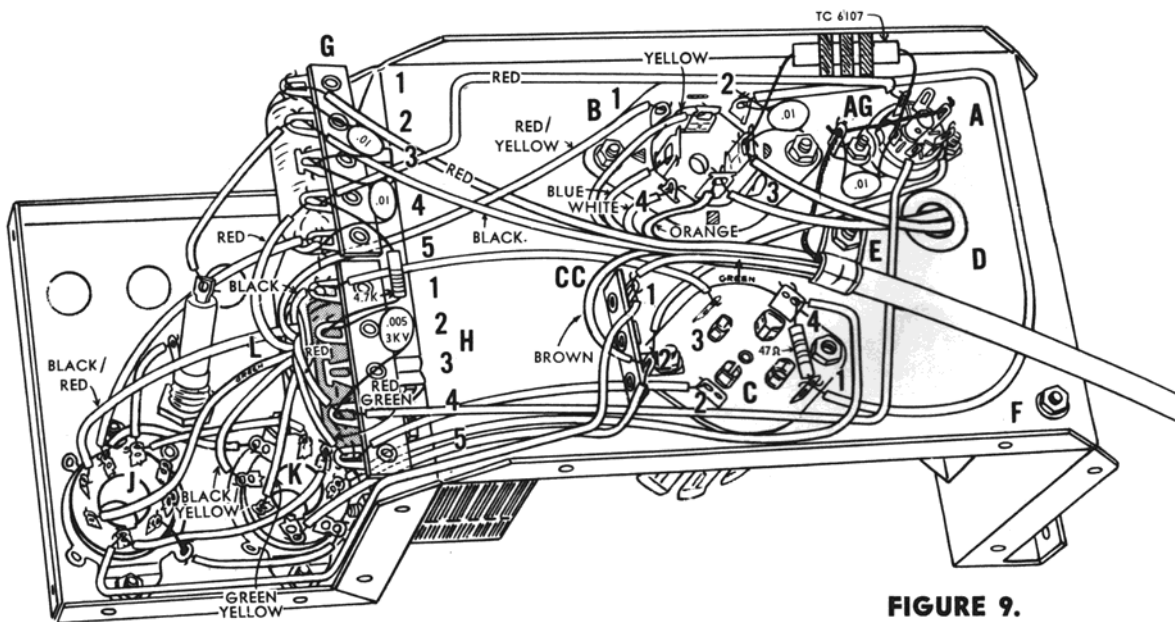

FIGURE 9.
- Place the chassis on the work bench in front of you so that its position corresponds to Figure 9. Referring to this diagram, mark all chassis holes with a grease pencil to correspond with the markings on the diagram.
- On the OTHER side of the chassis, position the power choke, part #TC1102, over the holes marked "E" and "F" orienting it so that the two leads are near the grommet at "D". Fasten with 6-32 screws, nuts, and lockwashers, with the head of the screws on the choke side of the chassis. Do not mount the cable clamp that appears in Fig. 9 at hole "E" at this time.
- Mount a 5 lug terminal strip at position "G" as shown in Fig. 9. Use a 6-32 screw, nut and lockwasher, with the head of the screw on the choke side of the chassis.
- Slip a 6-32 screw into each of the holes in the vibrator clip, so that the heads of the screws are on the "prong" side of the clip. Place over position "C", on the CHOKE SIDE of the chassis, and feed the screws into the corresponding holes. Holding the screw heads in place with the fingers of one hand, place the 4-prong wafer socket over the screws on the WIRING side of the chassis, making sure to orient it so that the two LARGE socket clips are to the right, as shown in Fig. 9.
- Fasten the right-side screw down with a nut and lockwasher. Now place the two-lug strip on the screw protruding through the socket on the left side, and fasten with a nut and lockwasher. Orient the strip as shown in Fig. 9. Tighten both screws.
- Similarly, mount the second octal socket at position "J", with 6-32 screws, nuts, and lockwashers. Make sure that the key-way of each of these octal sockets is pointing downwards, as shown in Figure 9.
- Mount the electrolytic capacitor can on the CHOKE SIDE of the chassis in its mounting plate previously installed. Note carefully that there are small cutouts in the phenolic base of the can, next to each of the terminal lugs. Be sure to position the capacitor on its mounting plate so that the (Δ), (\triangleleft), (\square) cutouts are in EXACTLY the same relative positions as they are in Fig. 9. With a pair of pliers, bend each of the mounting tabs with a quarter turn to the left so as to secure the can in place.
- Place the cable clamp over the free end of the cable, on the plastic jacket just past the point at which the cable was stripped. Position as shown in Fig. 9.